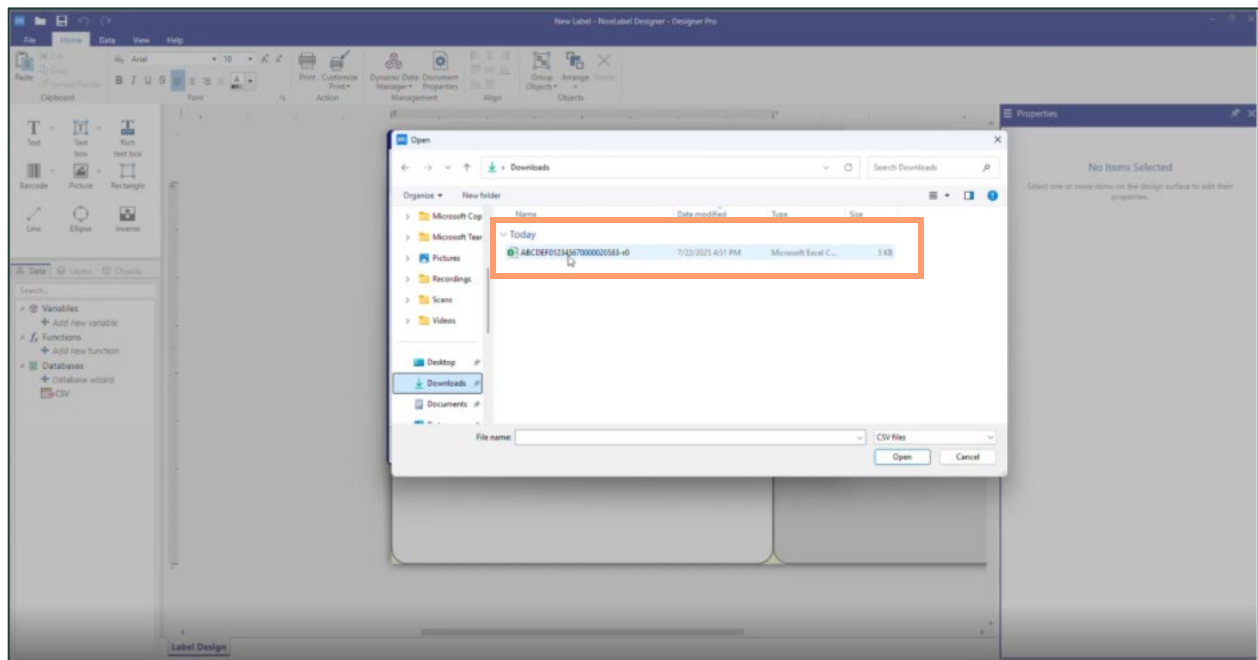

Figure 17: File of Retail IDs in the Open preview window
11. Search for your file and select Open – see figure 17.